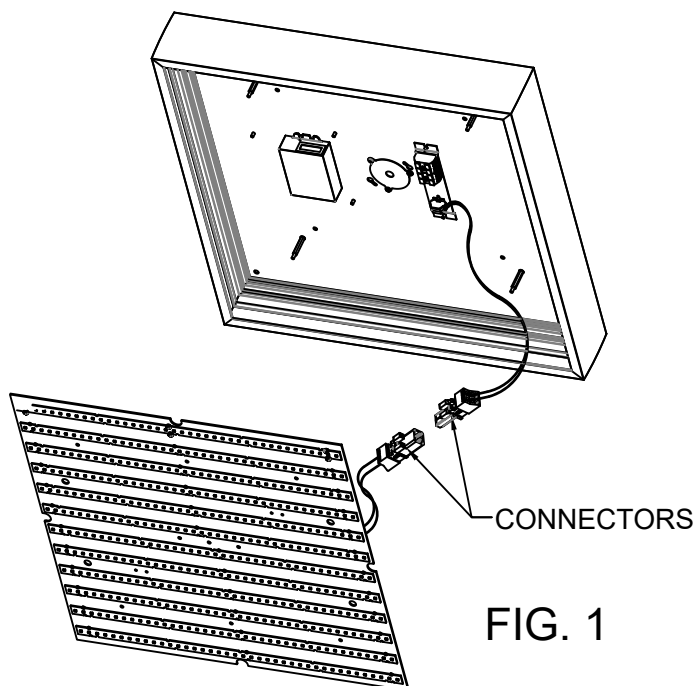

FIG. 1
1. Separate the LED board plate from the frame and unplug the connectors. (FIG. 1)